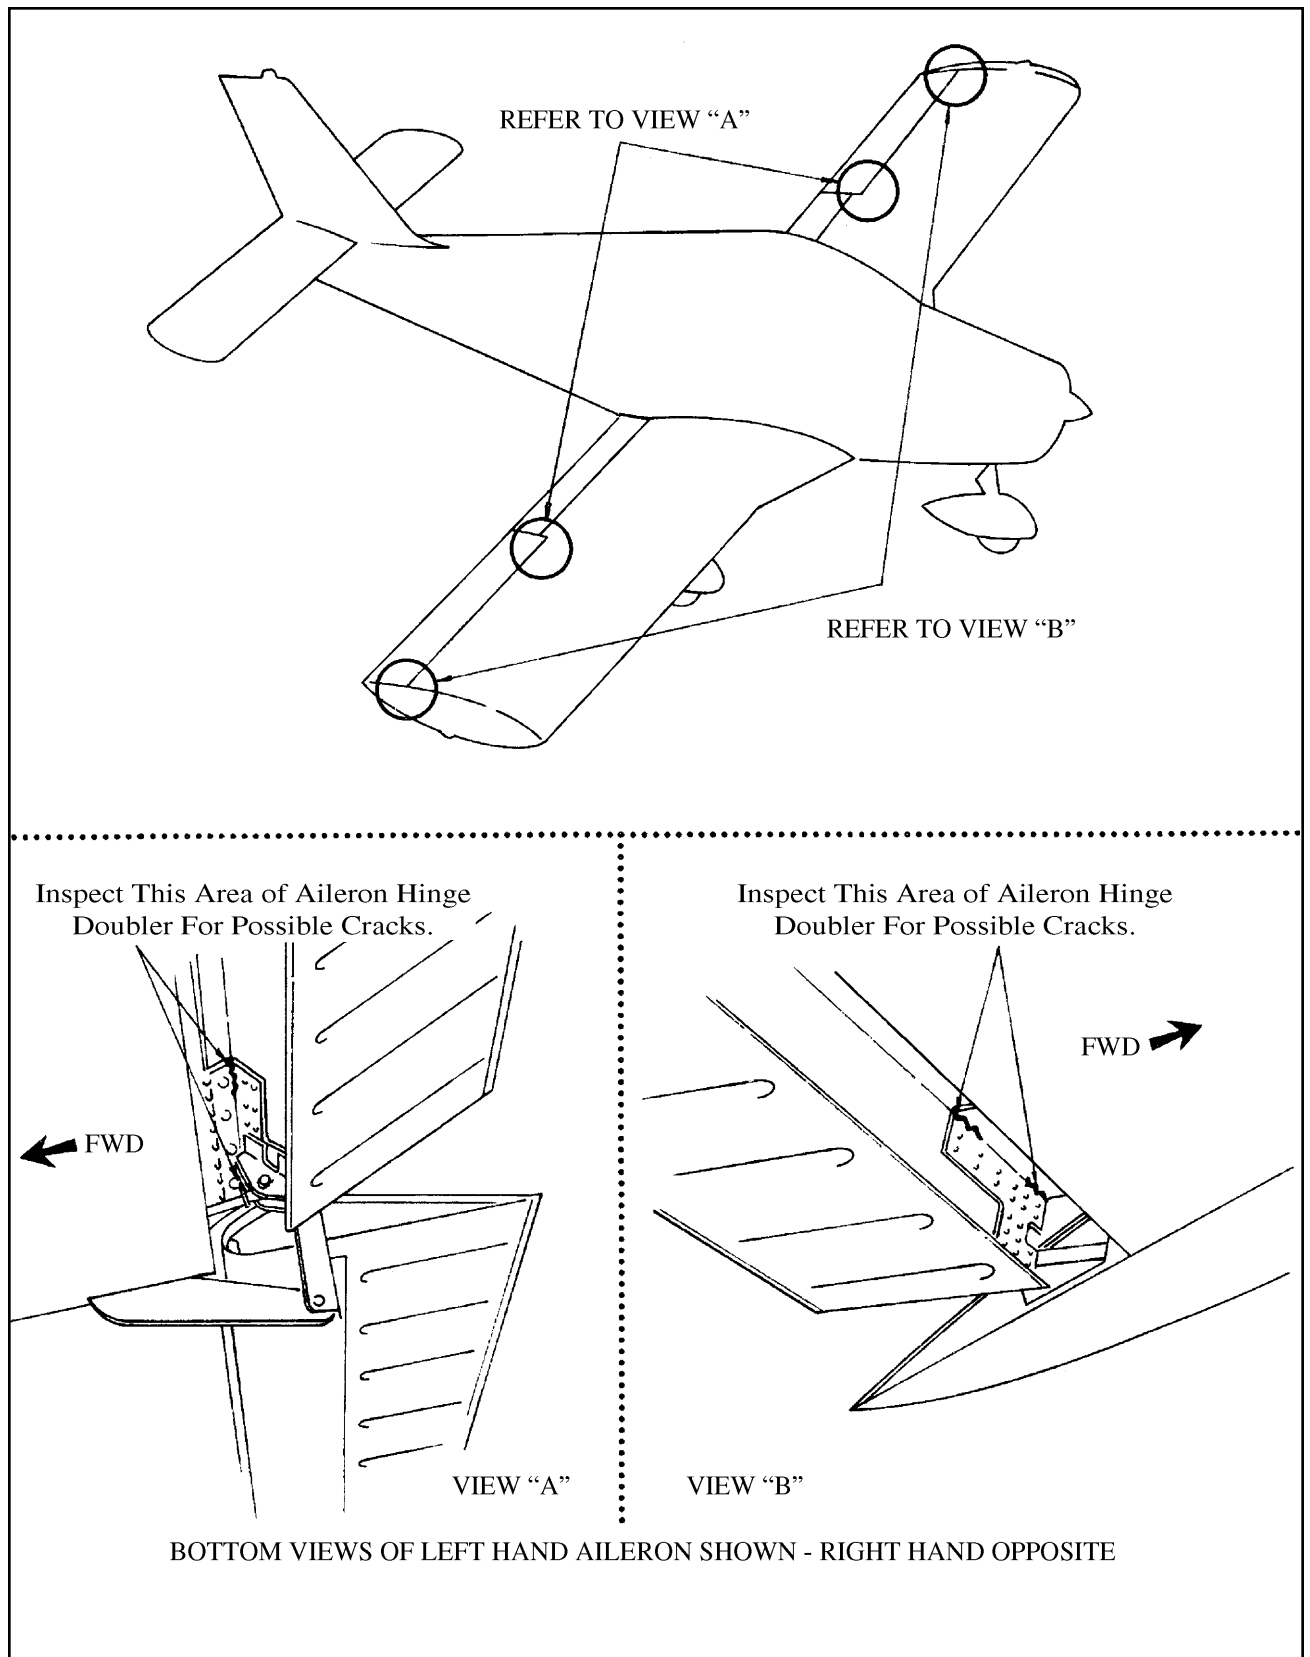

Figure 3-22. Aileron Hinge Doubler 100 Hour Inspection
- (a) Inspect the aileron hinge doublers inboard (next to control rod) and outboard (next to balance weight) to determine if cracks exist in the bend radii. (See Figure 3-22).